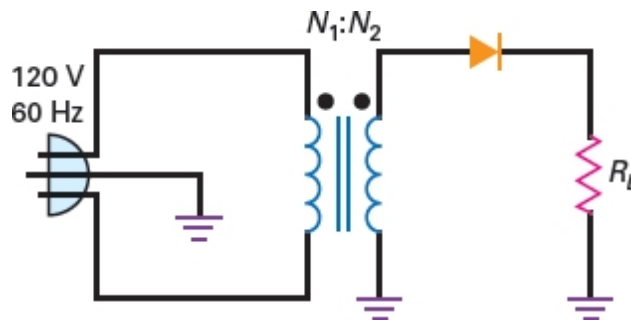

Figure-38 Half-wave rectifier with transformer
- Figure-38 shows a transformer. Here, you see line voltage applied to the primary winding of a transformer. Usually, the power plug has a third prong to ground the equipment. Because of the turn's ratio N_1/N_2 , the secondary voltage is stepped down when N_1 is greater than N_2 .